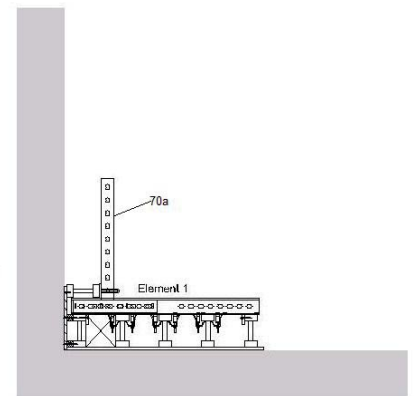

Fig. B5.04
2. Insert internal corner coupling TKZ (70a) perpendicularly to SRZ Waler of element 1, and clamp it in position with KZ wedges. (Fig.B5.04)